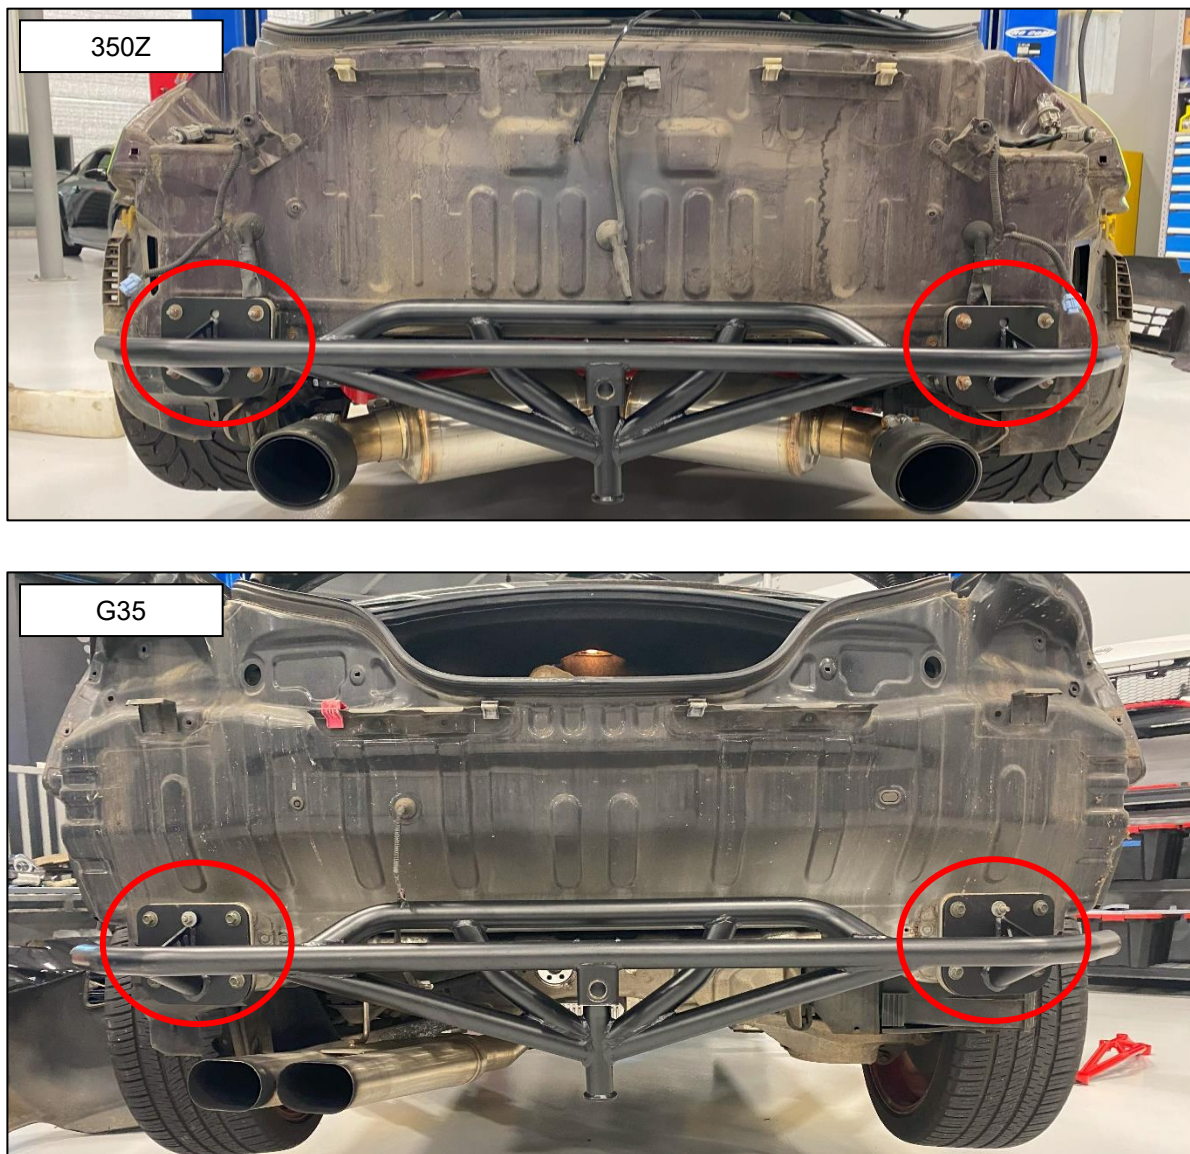

Figure 13
29. Remove the (8) eight nuts securing the OE Crash Bar to the vehicle. Some models may include (2) two extra nuts located on the locating pin at the top, if equipped, remove these nuts. Retain all hardware as it will be reused.
32. Using the OE Hardware removed from the OE Crash Bar, secure the Bash Bar to the vehicle. Torque the nuts to **17 ft-lbs**. *Figure 13.*